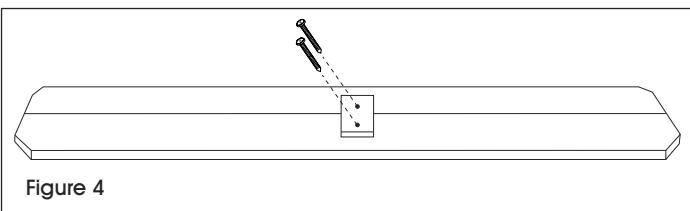

Figure 4
10. Pre-drill holes on seat blocks using 1/8" drill bit. Attach a seat block to the center of two seat planks. Attach using two 2 1/2" wood screws on the block. Repeat for the second seat plank. (See Figure 4)